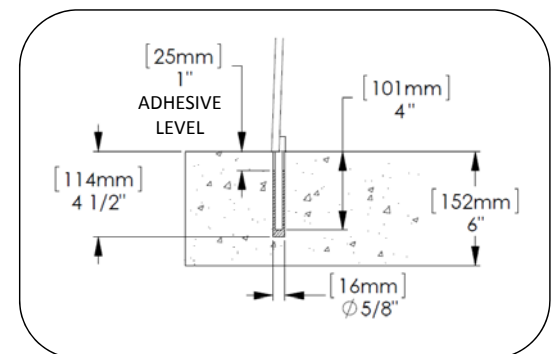

Fig. 2 – Embedded rod detail
2. Install threaded rods in each support. See Fig. 2.